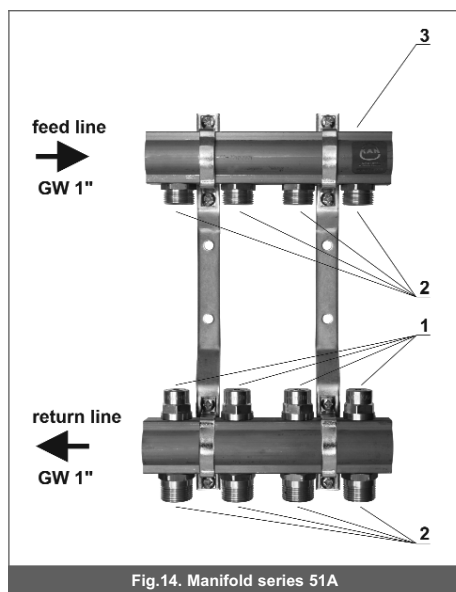

Fig.14. Manifold series 51A
3. **series 51A** (Fig.14) - lower beam with built-in control valves (they compensate flow resistance in particular coil pipes) and outputs for particular circuits with male thread G $\frac{3}{4}$ " (Eurokonus);